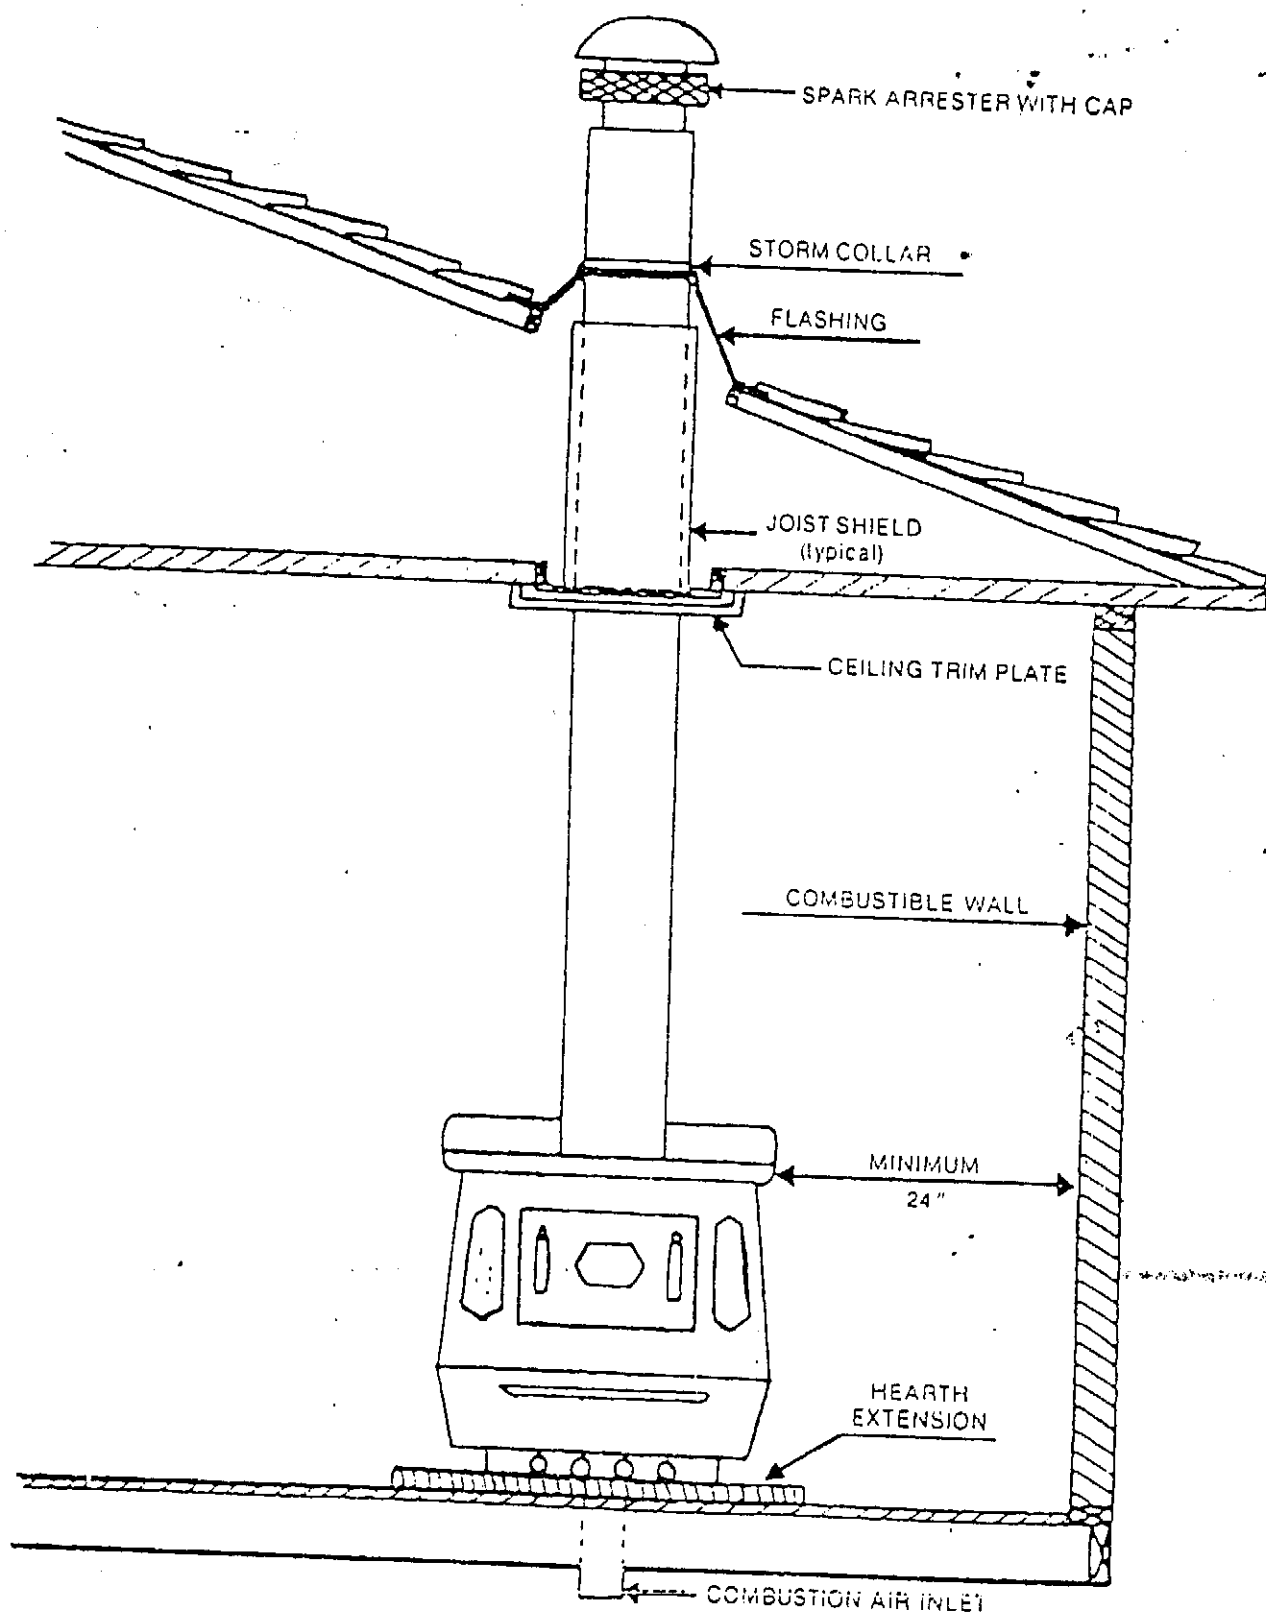

FIG. 6
8. Measure the distance from the ceiling to the top of any combustible material. If required, trim the top of the joist shield so that it will clear any combustible material when installed in step 13. Note that the joist shield may extend completely through the roof on some installations and may require trimming only to allow the proper positioning and attachment of the roof flashing and storm collar. See Fig. 6.